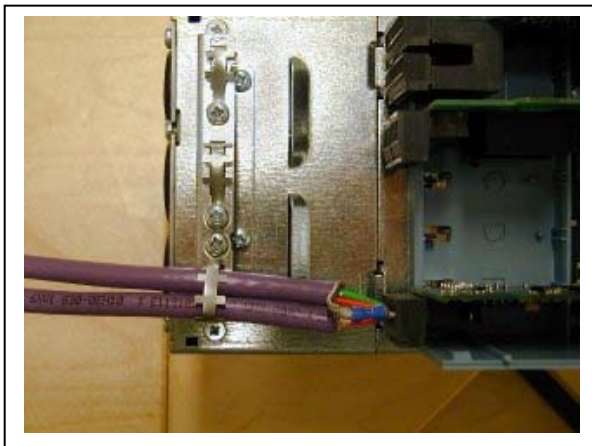

Figure 7.
- 3 Fix both the cables on the frame with the clamp. See Figure 7.